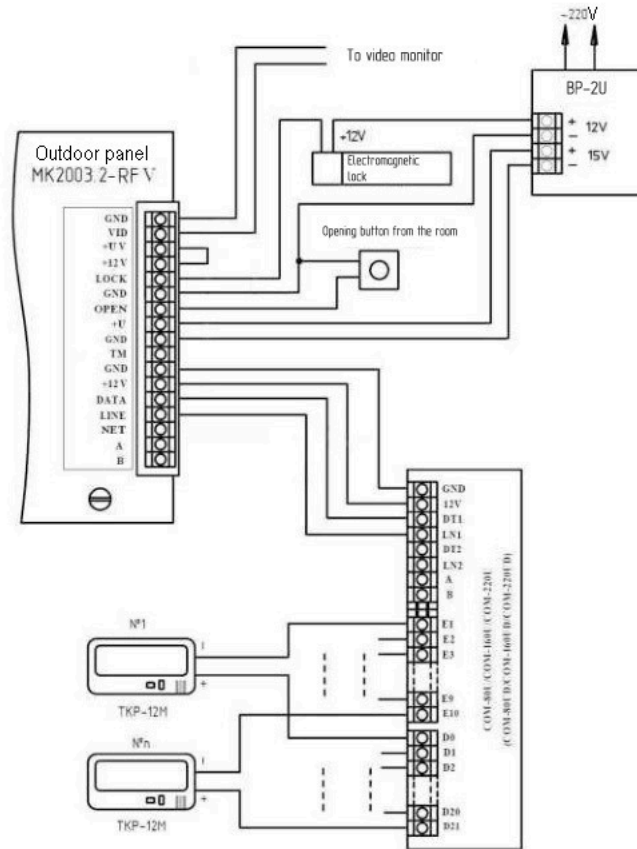

Fig. 2 Example of mounting the outdoor panel MK2003.2-KRU
6. Install the wiring. Make taps from the loops and connect the TKP of all the subscribers. (Figure 2, 3)
- E) Program the subscriber RF (MF) -keys.